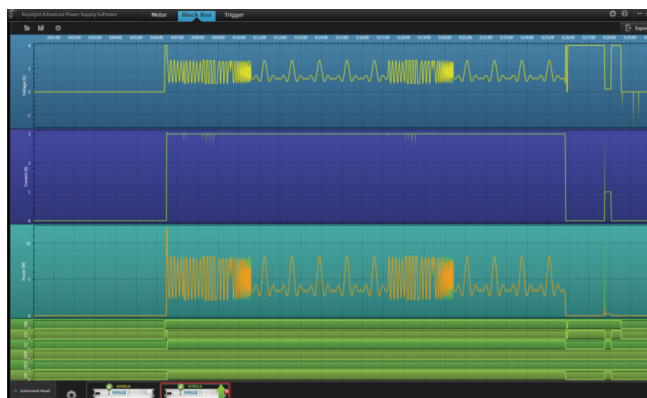

Figure 9. Black box recorder data displayed within the N7906A Power Assistant software
Much like a flight data recorder, the N7908A black box recorder (BBR) runs continually in the background, independent of what the power supply is doing. When the power supply is on, the BBR is recording power events and storing measurements in non-volatile memory. The BBR can be set for either a 24-hour record or a 10-day record period. In the 24-hour mode, measurements are made at a rate of 100 per second, and in the 10-day mode they are made at a rate of 10 per second. The BBR data can be accessed via the free APS power assistant software (see Figure 9 on page 9). The BBR is a user-installable hardware option, and it works in all APS N6900 and N7900 power supplies. You can purchase the N7908A BBR with an APS power supply or buy it later and install it in your existing APS power supply. The BBR hardware board plugs into the bottom of an APS power supply, as shown in Figure 8.
- Retrieve and view data from the optional APS power supply black box recorder (see Figure 9)